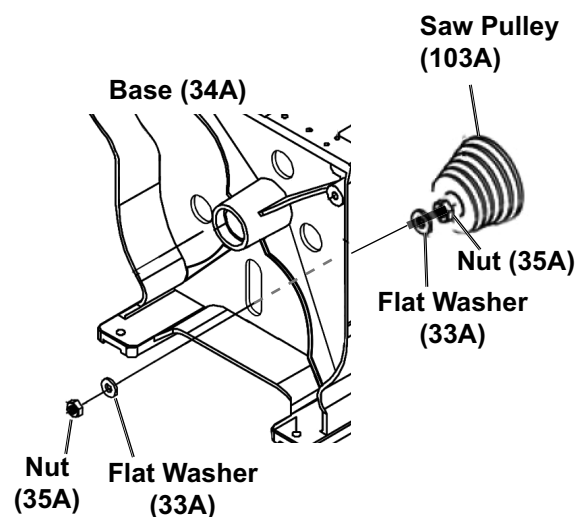

Figure 10
3. While holding the Flat Washer in place, feed the Saw Pulley's shaft through the Saw Base's elongated opening as shown in Figure 10. Note that the Upper Wheel (24A) will be in front of the Saw Base but is not shown in Figure 10.